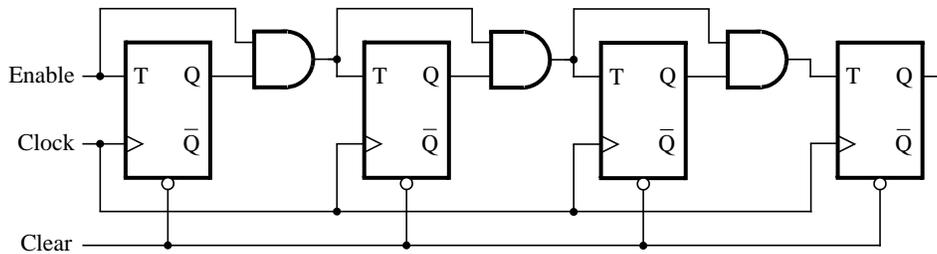

Figure 1. A 4-bit counter.
Consider the circuit in Figure 1. It is a 4-bit synchronous counter which uses four T-type flip-flops. The counter increments its count on each positive edge of the clock if the Enable signal is asserted. The counter is reset to 0 by using the Reset signal. You are to implement a 16-bit counter of this type.
1. Write a Verilog file that defines a 16-bit counter by using the structure depicted in Figure 1. Your code should include a T flip-flop module that is instantiated 16 times to create the counter. Compile the circuit. How many logic elements (LEs) are used to implement your circuit? What is the maximum frequency, F_{max} , at which your circuit can be operated?
5. Implement a 4-bit version of your circuit and use the Quartus II RTL Viewer to see how Quartus II software synthesized your circuit. What are the differences in comparison with Figure 1?